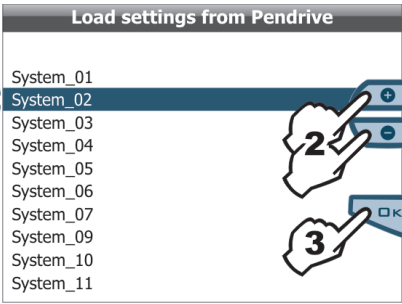

Fig. 74
- 2 Scroll the settings list (Fig. 74) using keys **+** or **-** and select the file to load;